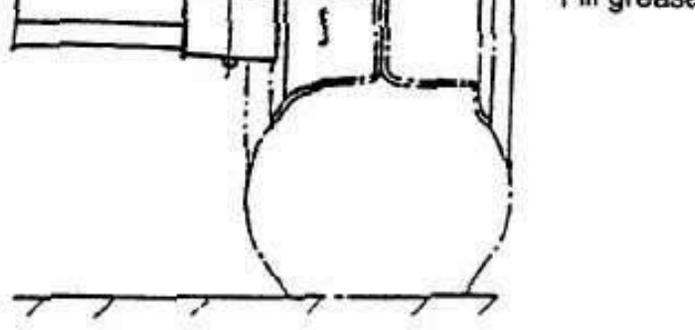

Fig5.5 Pre-load adjustment
(1) As shown in Fig5.5, fill up the chamber formed by wheel hubs, wheel hub bearing and wheel hub covers with lubricating grease. Coat the lips of the oil seals with lubricating grease.
(2) Press the hub bearing into the hub and fit the hub on the knuckle shaft.
(3) Fit a flat washer and tighten a castle nut with torque of 206 ~ 235N.m and loosen it and then tighten it again with torque of 9.8N.m.
(4) To ensure firm installation of the hub, slightly knock at it with a wooden hammer and in the meantime, rotate the hub for 3 ~ 4 turns.